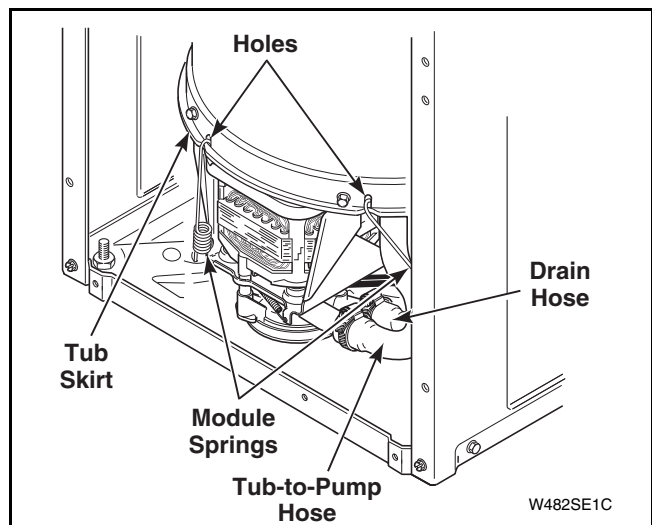

Figure 47
- Loosen hose clamp and remove drain hose from pump outlet. Refer to *Figure 47*.
- Using No. 321P4 Spring Hook Tool, unhook six module springs from lower edge of outer tub. Refer to *Figure 47*.